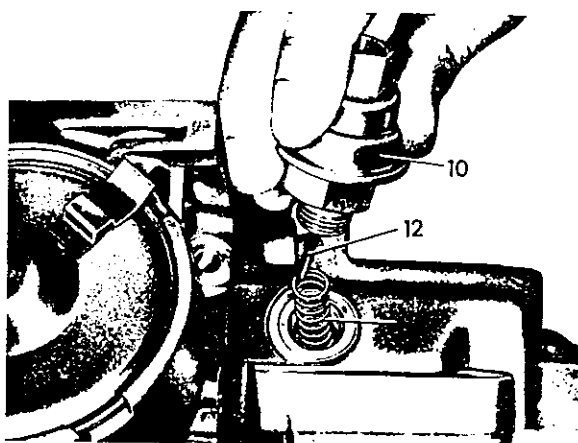

Fig. 6
5 Swivel transmission on the assembly stand so that the rear transmission case points upwards. Remove vacuum cell (10) pressure spring (11) and pressure pin (12) **Fig. 6**